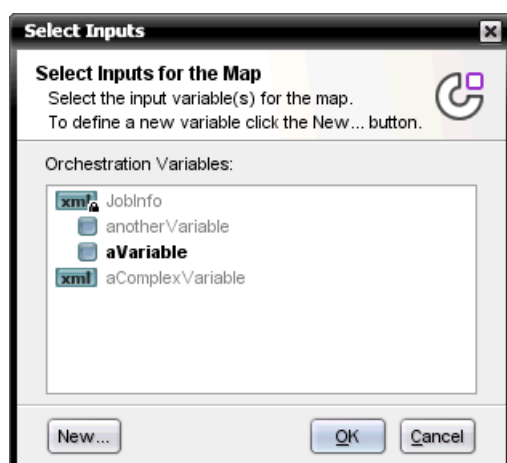

Figure 3-67 The Select Inputs window of the mapping editor
1. Click **Select Inputs** for the Map Inputs task and **Select Outputs** for the Map Outputs task. The Select Inputs or Select Outputs window opens. The Select Inputs window is shown in Figure 3-67. Both windows are used in the same way.
Variables that are already added are highlighted in bold. The variable *aVariable* in Figure 3-67 was added. The icon to the left of each variable indicates whether the type for
the variable is a primitive type or a complex type. The blue square in Figure 3-67 on page 131 indicates that the variable has a primitive type. The larger blue rectangle with *xml* on it indicates that the variable has a complex type.